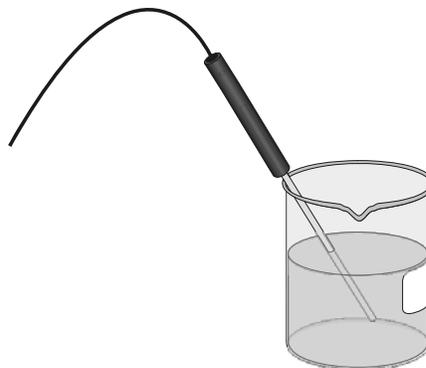

Figure 1
- Place the Temperature Probe into the cold water and stir briefly. Then position the probe in the cold-water beaker as shown in Figure 1. **Note:** Make sure the beaker will not tip over from the weight of the Temperature Probe.